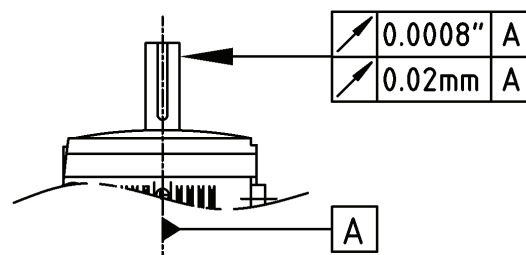

Figure 2
- Check the concentricity of the driver shaft end before mounting the impeller. The impeller should not be mounted if the concentricity error exceeds 0.02 mm (0.0008") see figure 2.